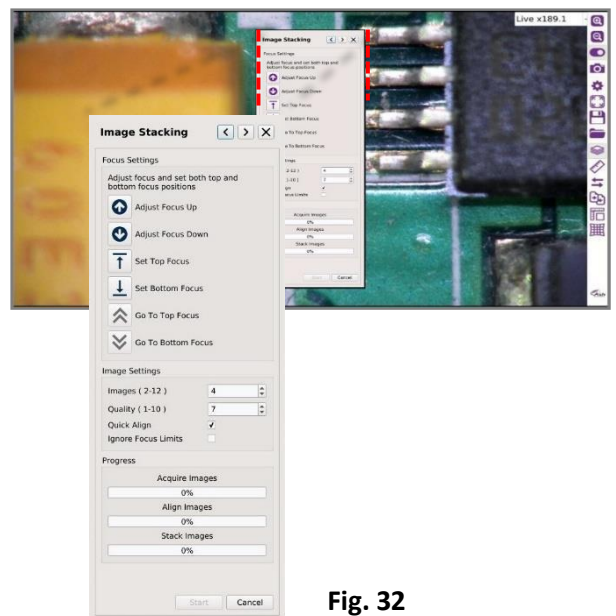

Fig. 32
1. Click on the Image Stacking icon. This will display the Extended Focus window (Fig.32). (after a reboot or mag. level change the 'Go To' buttons will be greyed out as the focus points have to be set)